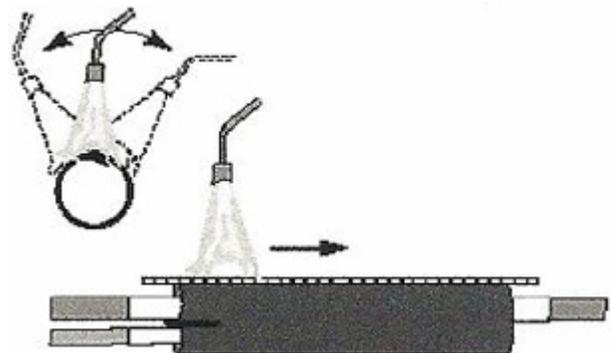

Figure 11
31. Adjust the torch flame and preheat both sides of the channel evenly until both sides begin to shrink. Keep the torch moving at all times. To heat the channel uniformly, move the flame in a zig-zag motion along both sides of the channel and along the length of the sleeve. Refer to Figure 11.